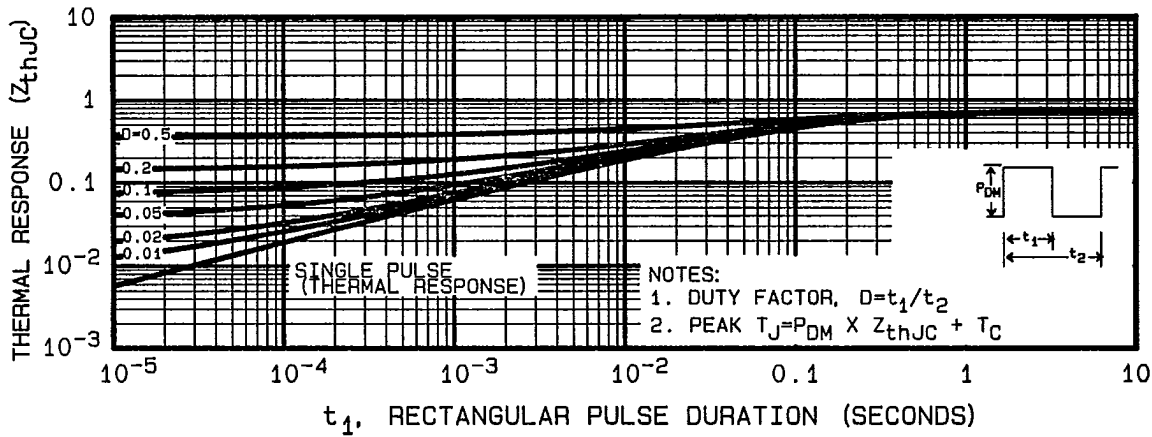

Fig. 5 — Maximum Effective Transient Thermal Impedance, Junction-to-Case Vs. Pulse Duration
① Repetitive Rating; Pulse width limited by maximum junction temperature (see figure 5) Refer to current HEXFET reliability report
③ $I_{SD} \leq 33\text{A}$, $di/dt \leq 190\text{A}/\mu\text{s}$, $V_{DD} \leq BV_{DSS}$, $T_J \leq 150^\circ\text{C}$ Suggested $R_G = 6.2\Omega$
④ $\text{K/W} = \text{C/W}$